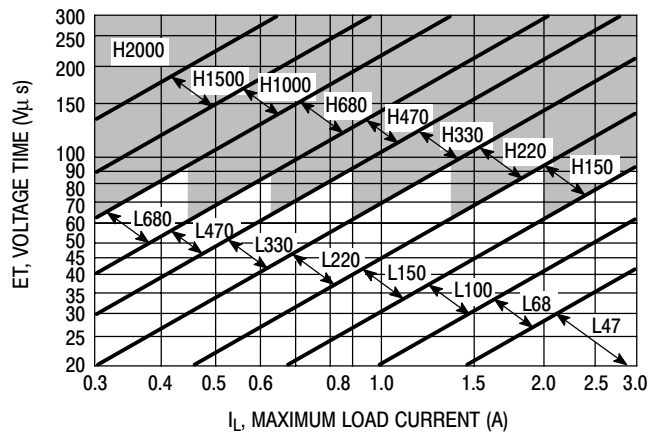
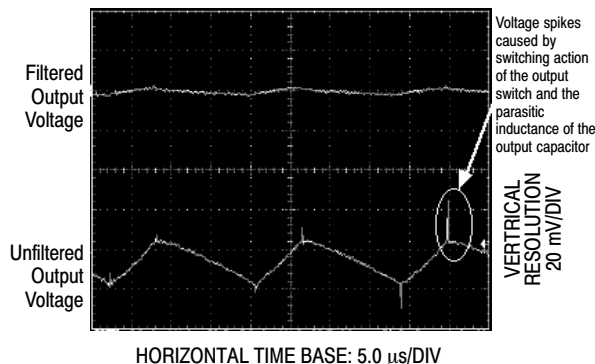

Figure 22. LM2576-ADJ
Figure 25. Output Ripple Voltage Waveforms
4. Inductor Selection (L1) A. Use the following formula to calculate the inductor Volt x microsecond [V x μs] constant: $E \times T = (V_{in} - V_{out}) \frac{V_{out}}{V_{in}} \times \frac{10^6}{F[\text{Hz}]} \text{ [V x } \mu\text{s]}$ B. Match the calculated E x T value with the corresponding number on the vertical axis of the Inductor Value Selection Guide shown in Figure 22. This E x T constant is a measure of the energy handling capability of an inductor and is dependent upon the type of core, the core area, the number of turns, and the duty cycle. C. Next step is to identify the inductance region intersected by the E x T value and the maximum load current value on the horizontal axis shown in Figure 25. D. From the inductor code, identify the inductor value. Then select an appropriate inductor from Table 2. The inductor chosen must be rated for a switching frequency of 52 kHz and for a current rating of $1.15 \times I_{Load}$. The inductor current rating can also be determined by calculating the inductor peak current: $I_{p(\text{max})} = I_{Load(\text{max})} + \frac{(V_{in} - V_{out}) t_{on}}{2L}$ where t_{on} is the "on" time of the power switch and $t_{on} = \frac{V_{out}}{V_{in}} \times \frac{1.0}{f_{osc}}$ For additional information about the inductor, see the inductor section in the "External Components" section of this data sheet.	4. Inductor Selection (L1) A. Calculate E x T [V x μs] constant: $E \times T = (25 - 8.0) \times \frac{8.0}{25} \times \frac{1000}{52} = 80 \text{ [V x } \mu\text{s]}$ B. E x T = 80 [V x μs] C. $I_{Load(\text{max})} = 2.5 \text{ A}$ Inductance Region = H150 D. Proper inductor value = 150 μH Choose the inductor from Table 2.
The regulator output voltage may also contain short voltage spikes at the peaks of the sawtooth waveform (see Figure 25). These voltage spikes are present because of the fast switching action of the output switch, and the parasitic inductance of the output filter capacitor. There are some other important factors such as wiring inductance, stray capacitance, as well as the scope probe used to evaluate these transients, all these contribute to the amplitude of these spikes. To minimize these voltage spikes, low inductance capacitors should be used, and their lead lengths must be kept short. The importance of quality printed circuit board layout design should also be highlighted.
In order to minimize the output ripple voltage it is possible to enlarge the inductance value of the inductor L1 and/or to use a larger value output capacitor. There is also another way to smooth the output by means of an additional LC filter (20 μ H, 100 μ F), that can be added to the output (see Figure 34) to further reduce the amount of output ripple and transients. With such a filter it is possible to reduce the output ripple voltage transients 10 times or more. Figure 25 shows the difference between filtered and unfiltered output waveforms of the regulator shown in Figure 34.